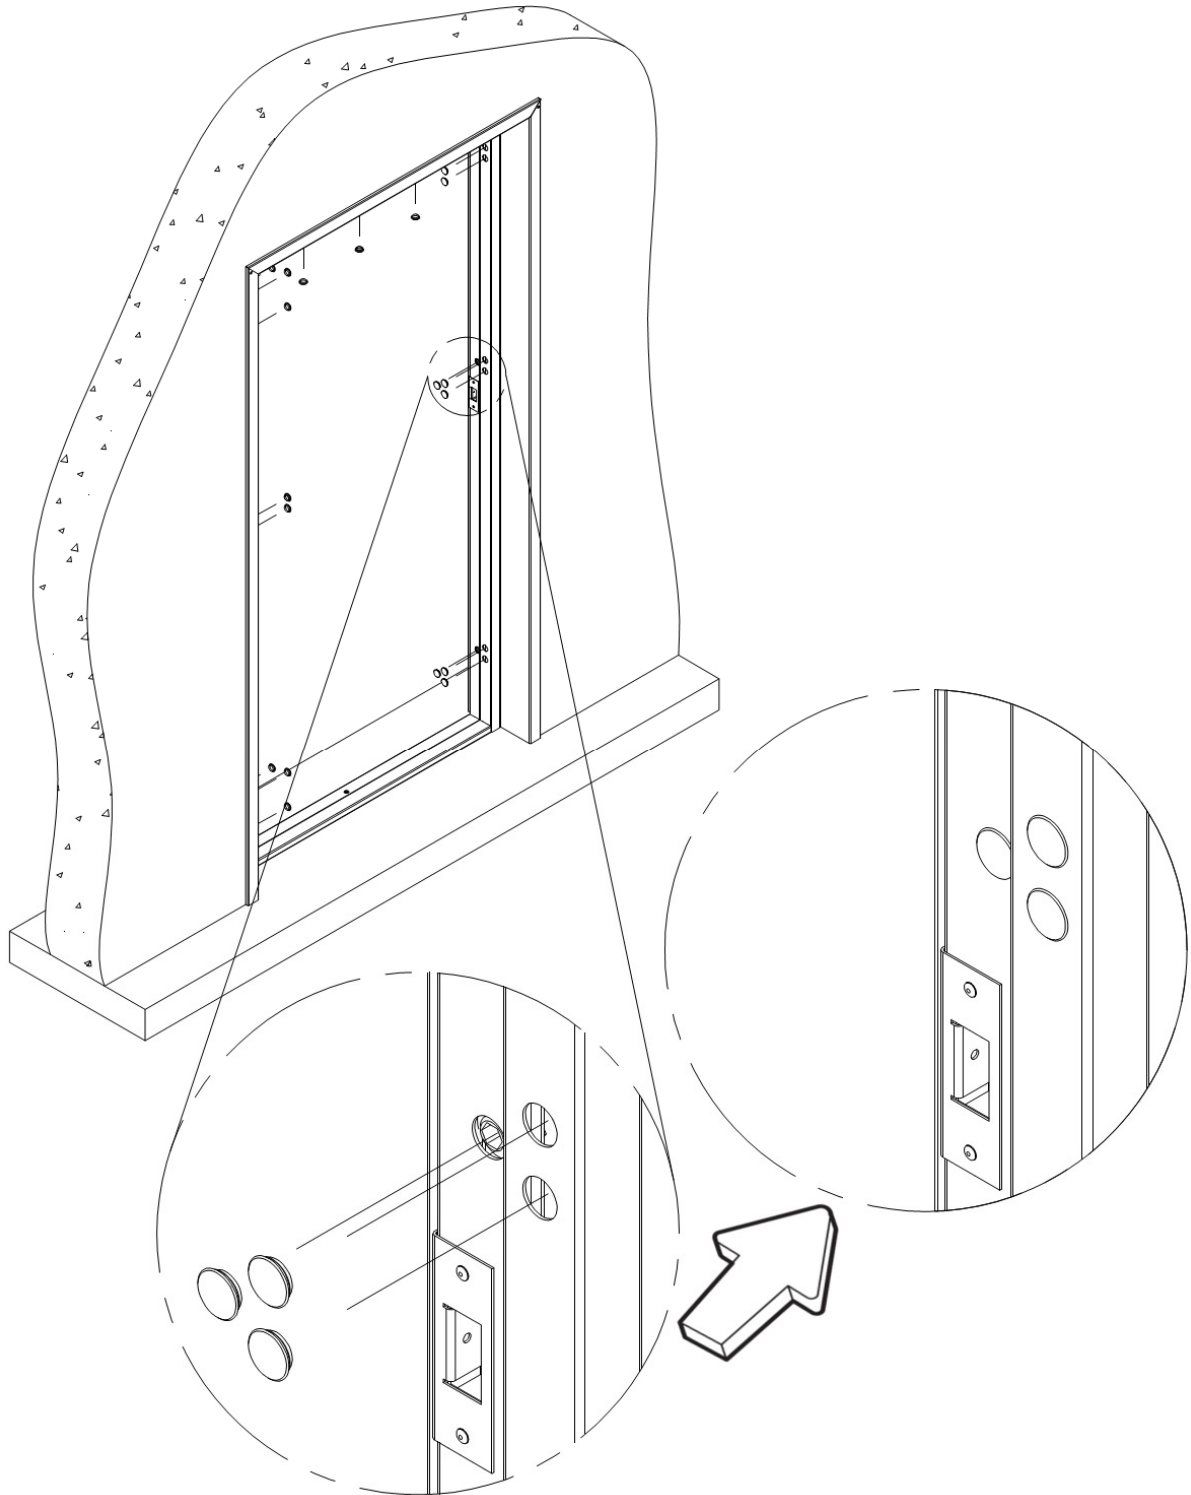

Figure 2.7 Inserting plastic caps.
10. Cover the $\varnothing 19$ mm holes in the jamb with plastic caps. (Figure 2.7)